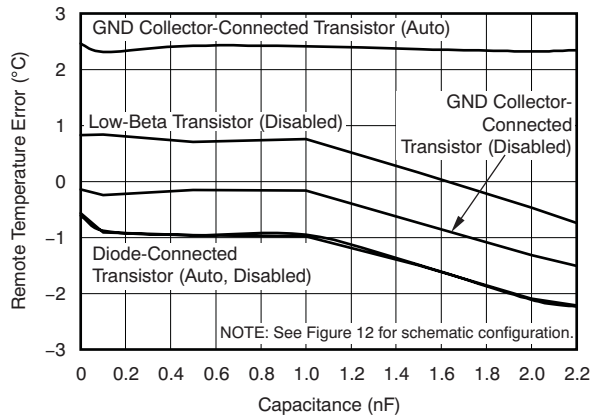

**Figure 9.**
The TMP435 can tolerate differential input capacitance of up to  $2200\text{pF}$  with minimal change in temperature error. The effect of capacitance on sensed remote temperature error is illustrated in Figure 9 and Figure 10, *Remote Temperature Error vs Differential Capacitance*. See the Filtering section for suggested component values where filtering unwanted coupled signals is needed.
- (1) Diode-connected configuration provides better settling time. Transistor-connected configuration provides better series resistance cancellation.
- (2)  $R_S$  (optional) should be  $< 1\text{k}\Omega$  in most applications. Selection of  $R_S$  depends on specific application; see Filtering section.
- (3)  $C_{\text{DIFF}}$  (optional) should be  $< 2200\text{pF}$  in most applications. Selection of  $C_{\text{DIFF}}$  depends on specific application; see Filtering section and Figure 9, Remote Temperature Error vs Differential Capacitance.